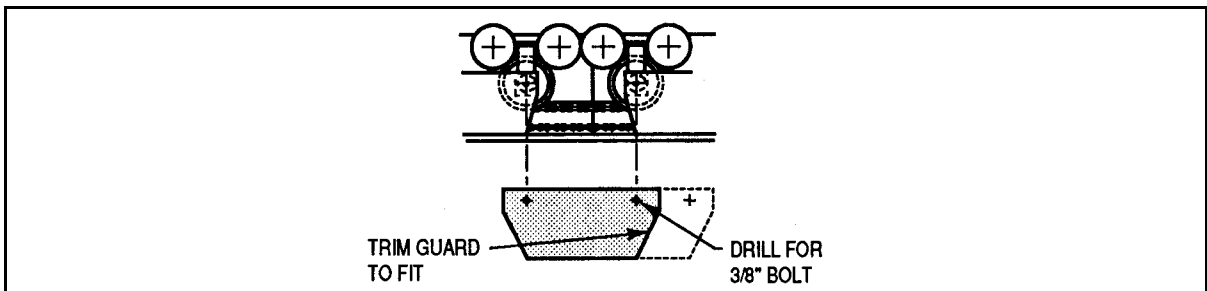
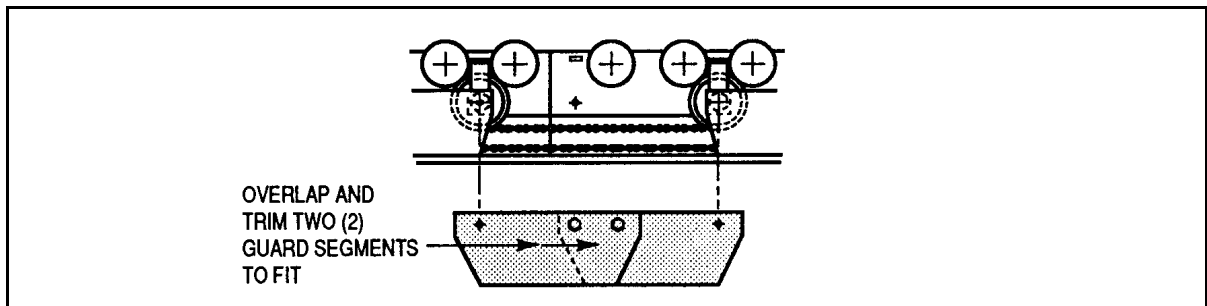

Figure G.55 – Shortened Guard Segment
Figure G.56 – Lengthened Guard Segment
Step 7. Shorten/lengthen guard segments to guard chain and sprockets at the splice of the two sections (see Figure G.55 and Figure G.56).